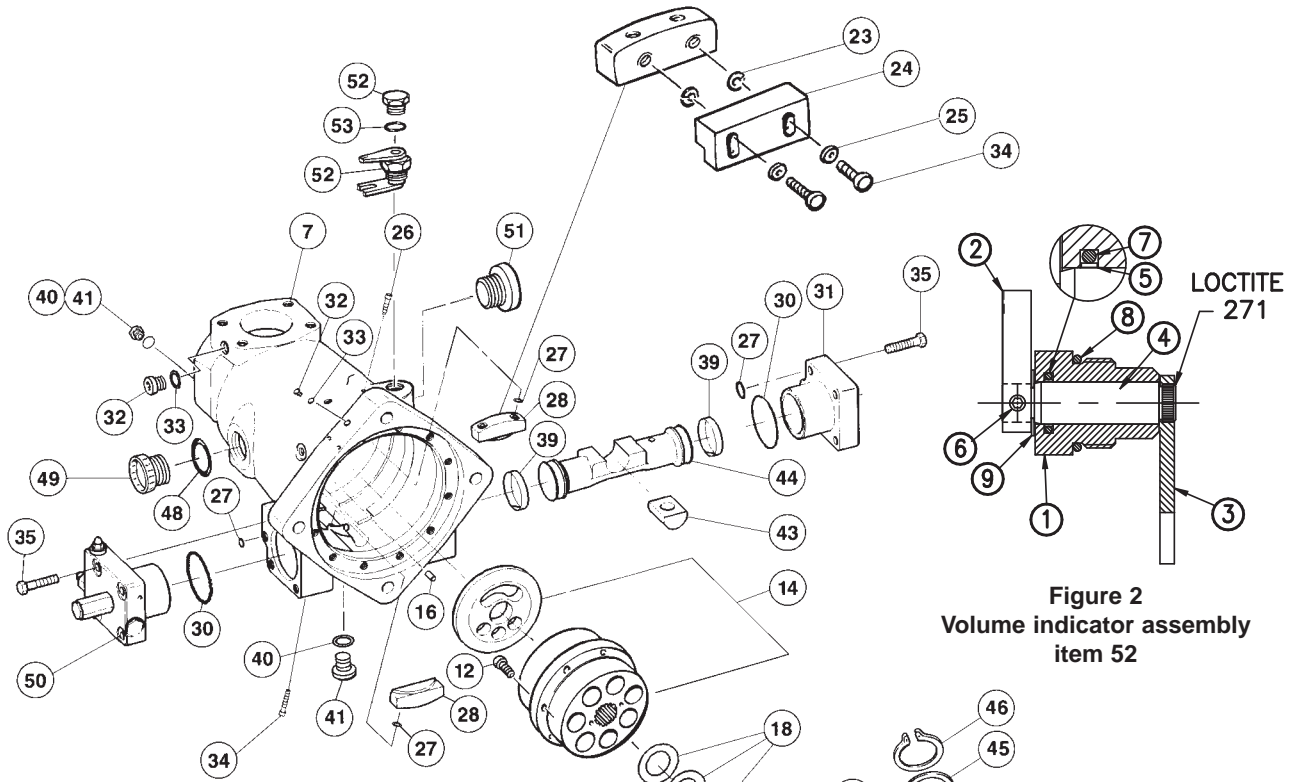

Figure 2
1. Remove plug (49) and drain oil from pump. Position pump with shaft up.
2. Wind maximum volume screw ref. see item (50), CW so that piston (44) bottoms out. This positions the cam at approximately zero stroke allowing removal of the drive shaft. *Reference item 1 page 27.*
3. Remove socket head cap screws (9). If disassembling PQ Control version, remove tubing and pass thru fitting (56).
4. Remove cradle assembly (6) from the housing. The M-10 threaded hole in end of the shaft is provided for lifting this assembly.
5. Remove snap ring (4).
6. Remove screws (21) and (47) to remove cam bearings (29) and (42) as applicable.
7. Remove shaft (1), bearing, and seal retainer. Support flat face of the rocker cradle and press end of shaft opposite the bearing end.
9. Remove retaining ring (20).
11. If pump contains a volume indicator assembly (52): *Refer to. Figure 2:* Remove indicator pointer (2), retaining ring (9) and pivot nut (1) from pump housing. Remove pivot shaft and fork assembly (3) and (4) through the hole.